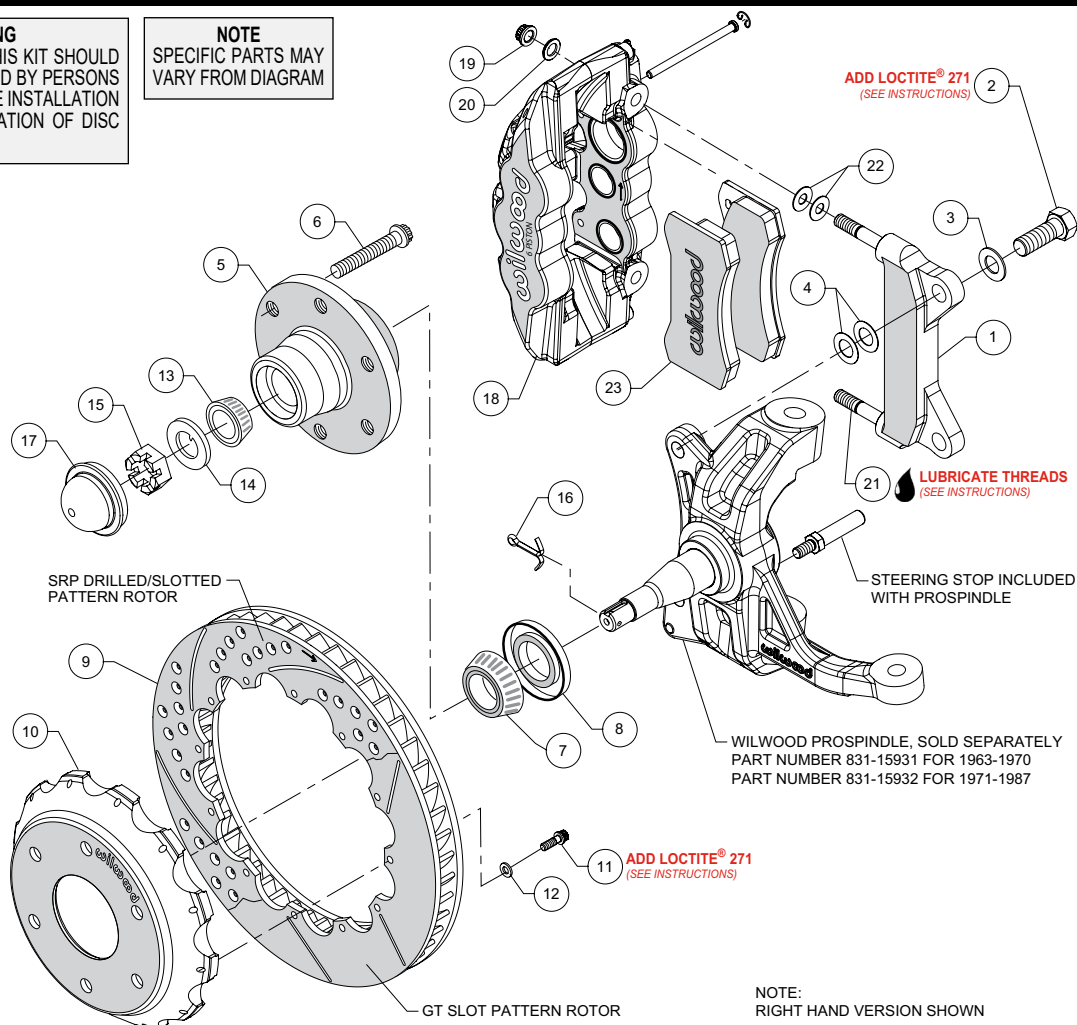
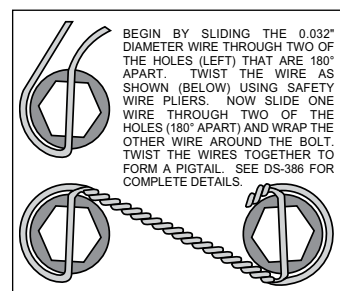

Figure 1. Typical Installation Configuration
Figure 3. Safety Wire Diagram
NOTE: Numbers in parenthesis refer to the parts list and Figure 1 on the preceding pages.
- Install the steering stop bolt (included with the ProSpindle) into the spindle as shown in Figure 1 and Photo 1. Torque to 25 ft-lbs.
- The caliper mount bracket (1) should initially be installed with clean, dry threads on the mounting bolts. Orient the bracket, as shown in Figure 1 and Photo 2, and install using bolts (2) and washers (3). Initially place two .024" thick shim (4) on each bolt between the bracket and spindle, Figure 1. Temporarily tighten the mounting bolts. **NOTE: The bracket must fit squarely against the mount bosses on the spindle.** Inspect for interference from casting irregularities, machining ridges, burrs, etc. Later, after the caliper alignment has been checked, the mount bolts will be secured using red *Loctite*® 271.
- Install wheel studs (6) into the hub (5), Photo 3. Torque to 77 ft-lb.
- Pack the large inner bearing cone (7) with high temperature disc brake bearing grease (available from your local auto parts store) and install into the backside of the hub (5), Photo 4.
- Install the grease seal (8) by pressing into the backside of the hub (5), flush with the end of the hub, Photo 5.
- Pack the small outer bearing cone (13) with high temperature disc brake bearing grease and install into hub (5). Slide the hub assembly onto the spindle. Secure using spindle washer (14) and spindle nut (15), Photo 6. Adjust bearings per OEM specifications. Install a new cotter pin (16).
- Press the dust cap (17) into the hub (5). **NOTE: Do not hammer center of cap. Install using outer flange only.**
- Orient the rotor (9) and the hat (10) as shown in Figure 1 and Photo 7. Attach rotor to hat using bolts (11) and washers (12). Apply red *Loctite*® 271 to the bolt threads and torque to 155 **in-lb** using a criss-cross pattern. For an added measure of security, the bolts may be safety wired using standard 0.032 inch diameter stainless steel safety wire as shown in Figure 3. Refer to Wilwood's data sheet DS-386 (available at www.wilwood.com/Pdf/DataSheets/ds386.pdf) for complete safety wire installation instructions.
- Slide the hat/rotor assembly (10 and 9) onto the hub (5), Photo 8. **NOTE: The hat must fit flush against the hub face or excessive rotor run out may result.** Install three lug nuts (finger tight) to keep the hat/rotor assembly in place while continuing with the installation, Photo 8.
- **NOTE: This kit contains distinct right and left hand calipers that must be mounted in a specific direction, as described below.** Lubricate the caliper mounting studs (21) with lightweight oil.
Initially place two .030" thick shims (22) on each stud between the caliper and the bracket, as shown in Figure 1 and Photo 9. Mount the caliper (18) onto the bracket (1) using lock nuts (19) and washers (20), Figure 1. Temporarily tighten the lock nuts. Ensure that the caliper is mounted so that the largest pistons are at the rotor exit end of the caliper, in relation to the direction of rotor rotation. View the rotor through the top opening of the caliper. The rotor should be centered in the caliper, Photo 10. If not, adjust by adding or subtracting shims (4) between the bracket and the spindle. Always use the same amount of shims on each of the two mounting bolts. Once the caliper alignment is correct, remove the bracket mounting bolts one at a time, apply red *Loctite*® 271 to the threads, and torque to 140 ft-lb.
- Remove the caliper (18), then remove the two pad retaining pins from the caliper by carefully popping out the pin retaining clips and sliding out the pins. Insert the brake pads (23) into the caliper from the bottom, Figure 1 and Photo 11. With the friction material facing the rotor, secure the brake pads in place with the pad retaining pins and clips, Photo 12. Reinstall the caliper onto the caliper mounting bracket and temporarily tighten the lock nuts. Check that the top of the brake pad is flush with the outside diameter of the rotor, Photo 13. If not, adjust by adding or subtracting shims (22) between the caliper and the bracket. After the caliper pad height is set, torque the caliper lock nuts (19) to 47 ft-lb.